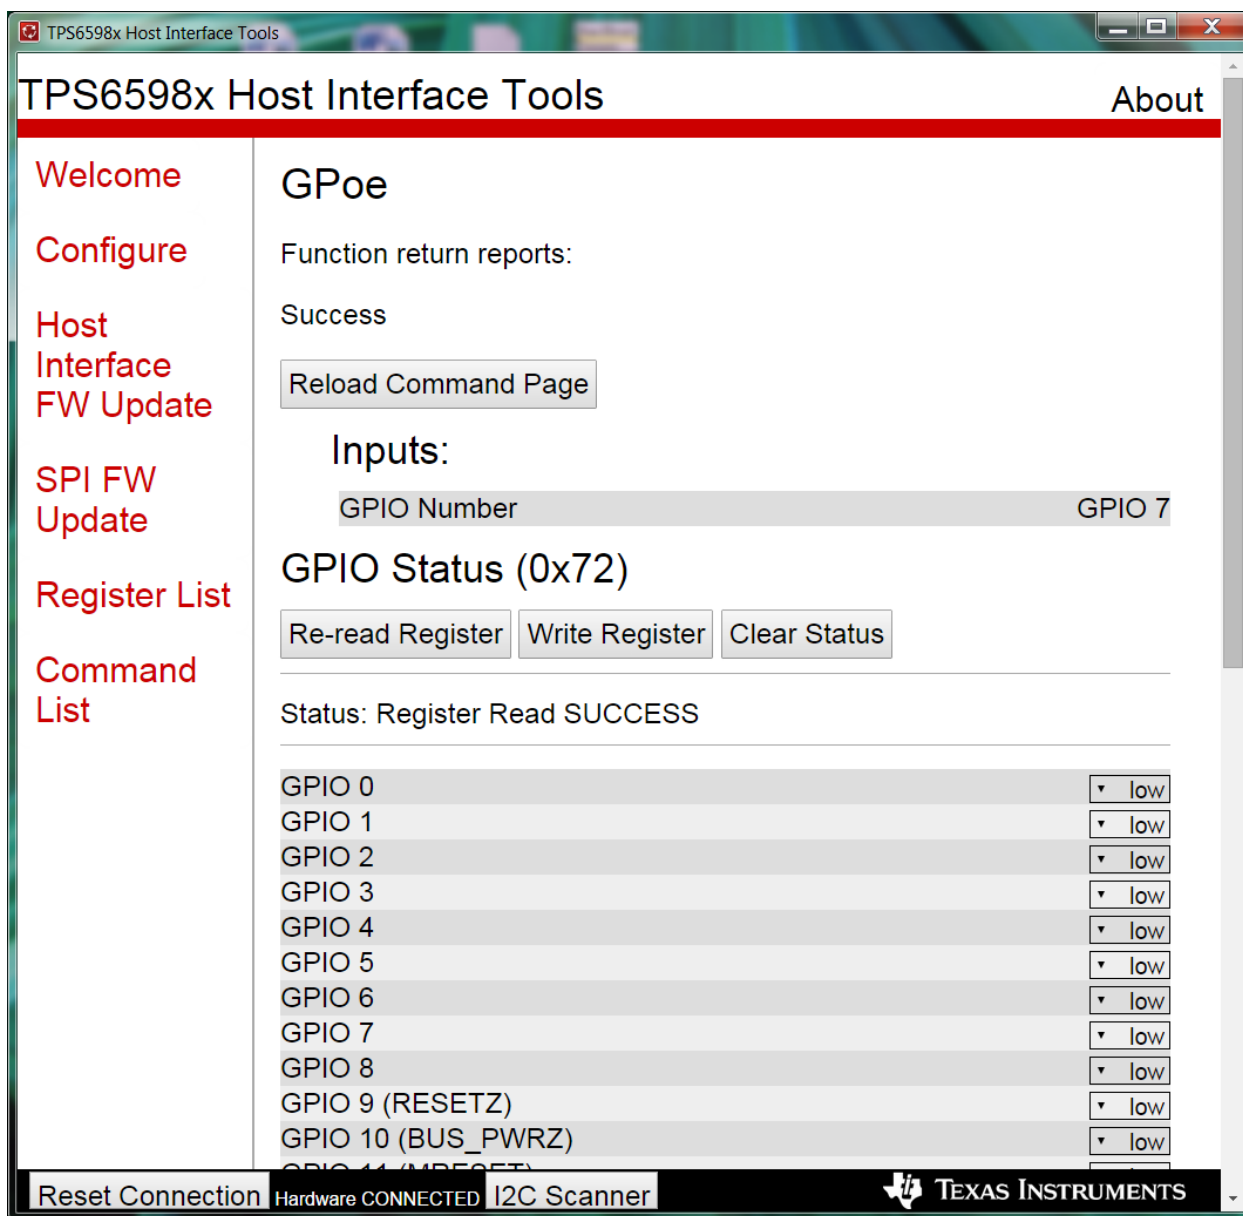

Figure 11: Using 'GPoe' 4CC command
- First send 'GPoe' 4CC command as shown in Figure 11